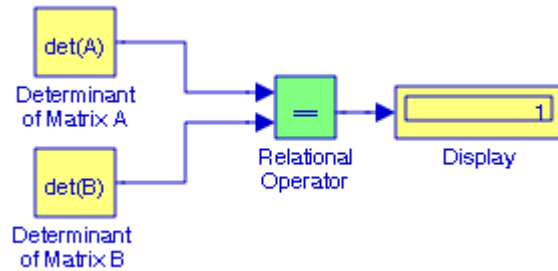

Figure 2.22. Model for Example 2.11
The model shown in Figure 2.22 determines whether the determinants of the matrices A and B defined below are equal or unequal.
In the **Source Block Parameters** dialog box of the **Constant** blocks we enter `det(A)` and `det(B)`. The **Display** block in Figure 2.22 indicates that the determinants of Matrices A and B are equal.
* The ANDing operation has precedence over the ORing operation. For instance, the Boolean expression $A \cdot B + C$ implies that A must first be ANDed with B and the result must be ORed with C as shown in Figure 2.22. The dot symbol between A and B is often omitted. For a detailed discussion on Boolean expressions, please refer to *Digital Circuit Analysis and Design with Simulink Applications and Introduction to CPLDs and FPGAs*, ISBN 978-1-934404-06-5.